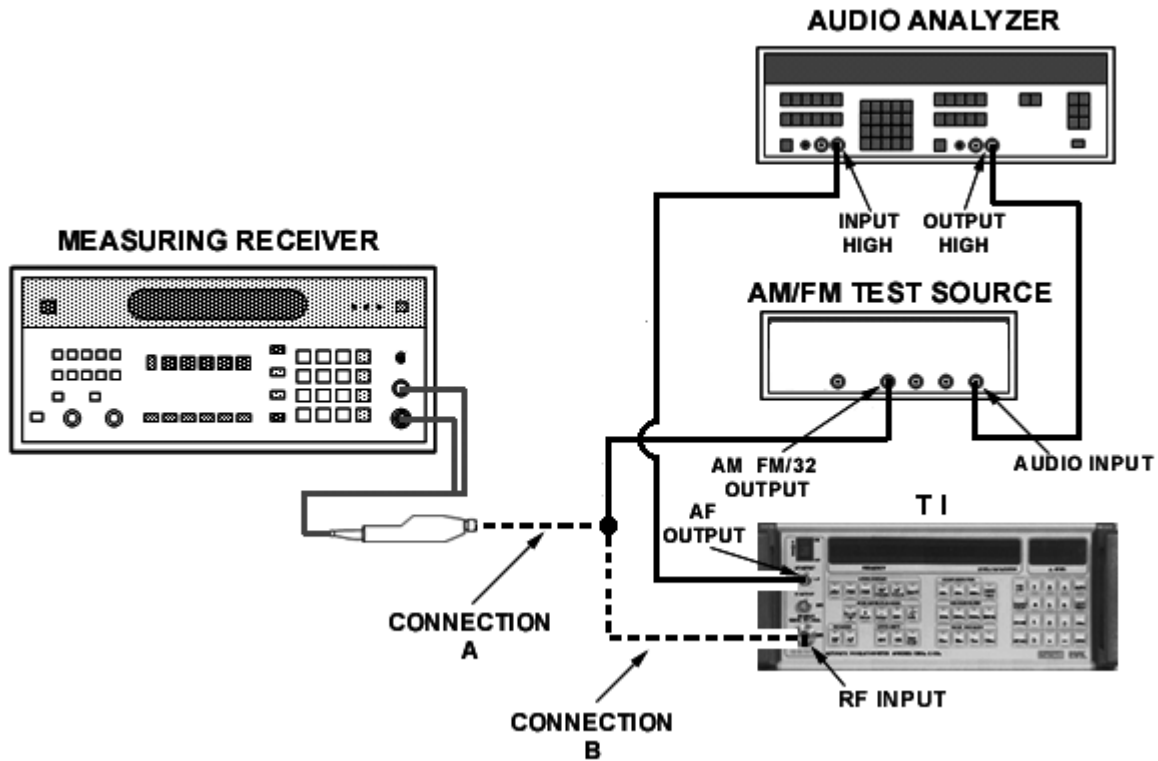

Figure 5. AM accuracy
- (1) On measuring receiver, calibrate **AM** and **FM** functions, using low frequency sensor module.
- (2) Connect equipment as shown in figure 5, CONNECTION A.
- (4) On audio analyzer, press pushbuttons as indicated in (a) through (d) below:
- (5) On measuring receiver press **FREQ** pushbutton.
- (6) On AM/FM test source, set **TEST MODE** switch to **AM** and adjust **CARRIER FREQUENCY TUNE** control for **12.5 MHz** display indication on measuring receiver.
- (7) On measuring receiver, press **AM** pushbutton and record amplitude modulation displayed indication.
- (8) Connect equipment as shown in figure 5, CONNECTION B.
- (9) **TI LEVEL/DATA ENTRY** display will indicate within  $\pm 2.5\%$  + one count of the recorded value in (7) above.
- (10) Audio analyzer display will indicate  $< 0.3\%$  distortion.
- (11) Connect equipment as shown in figure 5, CONNECTION A.
- (12) On audio analyzer, press **SOURCE LEVEL** pushbuttons to 492 mV.
- (13) On measuring receiver, record amplitude modulation displayed indication.
- (14) Connect equipment as shown in figure 5, CONNECTION B.
- (15) **TI LEVEL/DATA ENTRY** display will indicate within  $\pm 2.5\%$  + one count of the recorded value in (13) above.
- (16) Audio analyzer display will indicate  $< 0.6\%$  distortion.